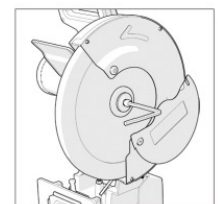

Fig. 4
- Use the provided hex wrench to loosen the spindle screw (Fig.4)